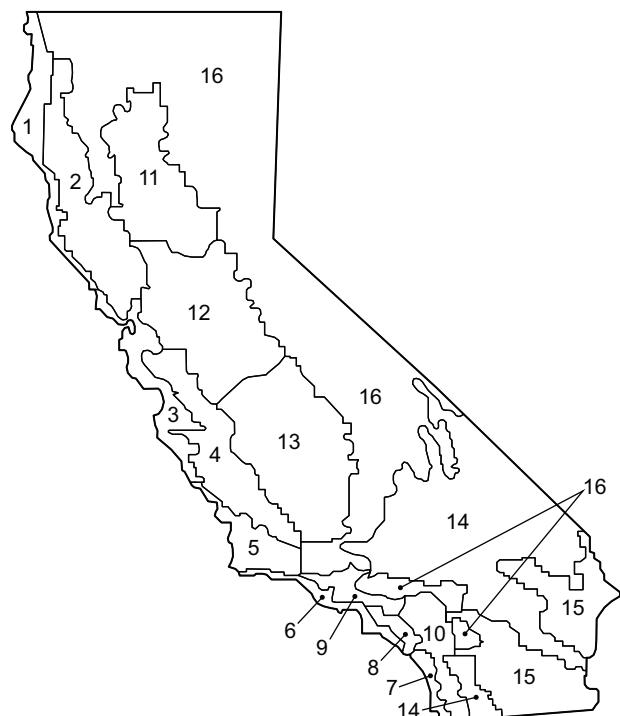

Fig. 91 — California Title 24 Zones
- b. See Fig. 91 for map of California Title 24 zones.